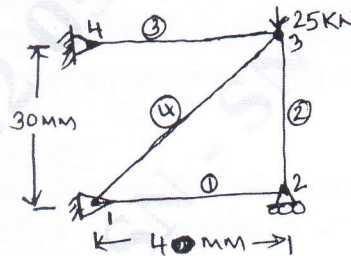

Fig Q4
- 4 A four bar truss element as shown in Fig Q4, determine nodal displacement and stress in each element. Area = 100 mm^2 $E = 2 \times 10^5 \text{ N/mm}^2$